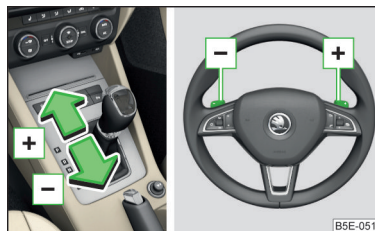

Fig. 135
- Push the selector lever forwards  » Fig. 135.
- Pull the right-hand paddle  » Fig. 135 briefly towards the steering wheel.
- Push the selector lever backwards  » Fig. 135.
- Pull the left-hand paddle  » Fig. 135 briefly towards the steering wheel.
- Pull one of the  » Fig. 135 briefly towards the steering wheel.